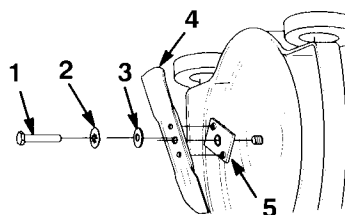

Figure 28
1. Remove the blade bolt (Fig. 28).
2. Remove the blade from the blade driver (Fig. 28).